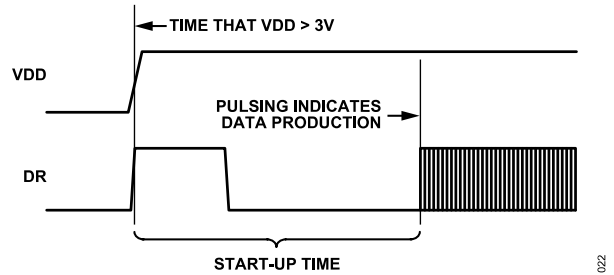
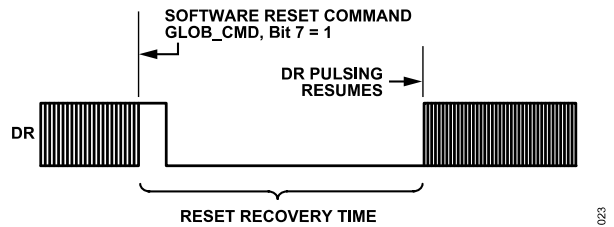
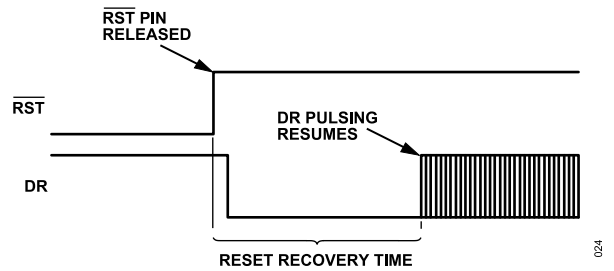

Figure 36. Data Ready Response During Startup
Figure 37. Data Ready Response During Software Reset (Register GLOB\_CMD, Bit 7 = 1) Recovery
Figure 38. Data Ready Response During Reset ( $\overline{RST} = 0$ ) Recovery
During the start-up and reset recovery processes, the data ready (DR) signal can exhibit transient behavior before data production begins. Figure 36 provides an example of the DR behavior during startup, and Figure 37 and Figure 38 provide examples of the DR behavior during recovery from reset commands.